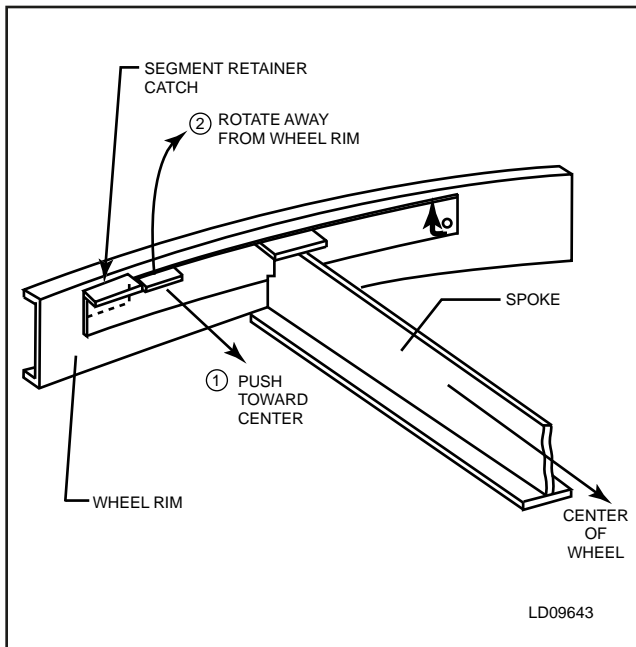

FIG. 3-12 – SEGMENT RETAINER
2. Before applying power to drive motor, confirm wheel segments are fully engaged in wheel frame and segment retainers are completely fastened (see Fig. 3-12).